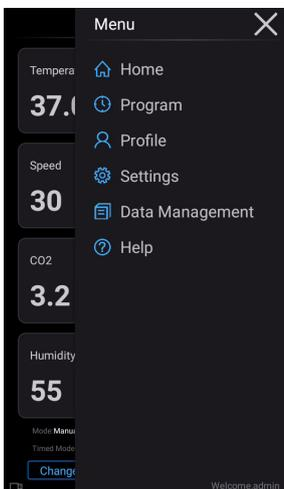

Figure 3
2. Click to expand the drawer, as shown in the figure 3.
**NOTE:** Click on Data Management button in Main Menu interface, as shown in figure 3.